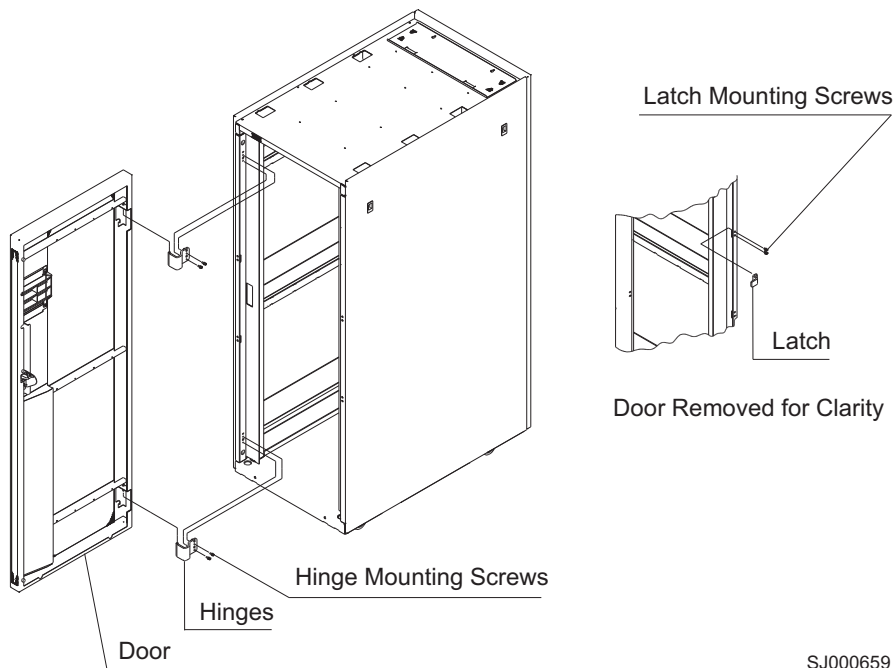

Figure 76. Removing the rack door
3. Remove the hinge bracket (if necessary) by removing the hinge mounting screws that attach the bracket to the rack. See Figure 76.